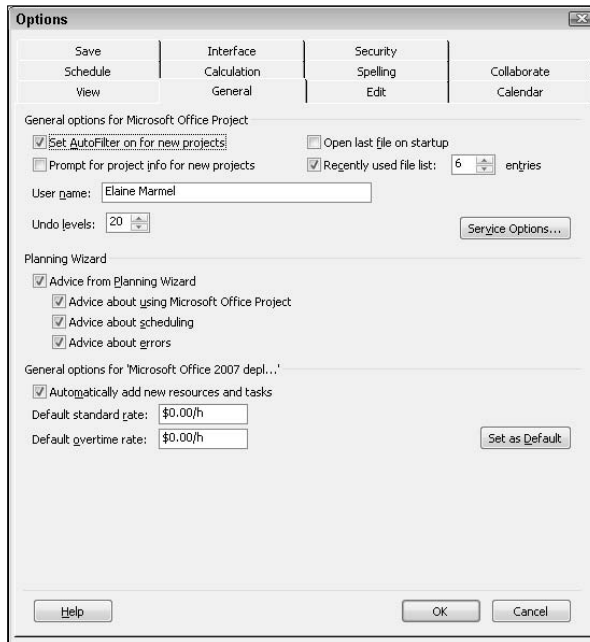

Figure 1-15: Set up Project to automatically display AutoFilters whenever you start a new project.
3. Select the **Set AutoFilter On For New Projects** check box (see **Figure 1-15**).